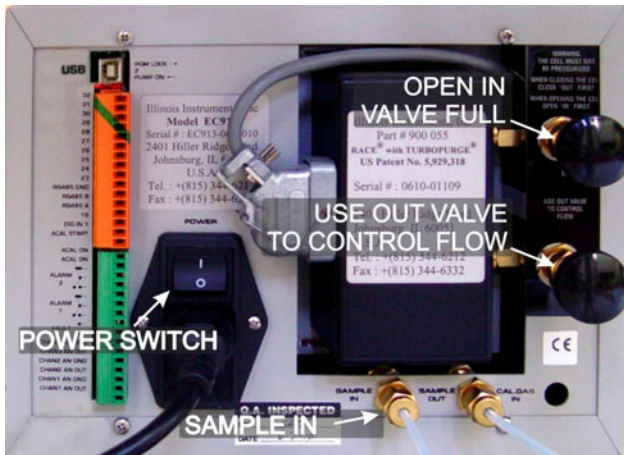

Figure 0-26 EC913 Oxygen Analyzer Rear Controls
3. During initial startup, adjust OUT valve until Sample Flow flowmeter on front of analyzer reads 0.1-0.15 L/min (Figure 0-26). On subsequent startups, the flow rate does generally not need to be adjusted.
on back of analyzer (Figure 0-26) to ON position.
2. Open IN valve full CCW (on back of analyzer, (Figure 0-26).